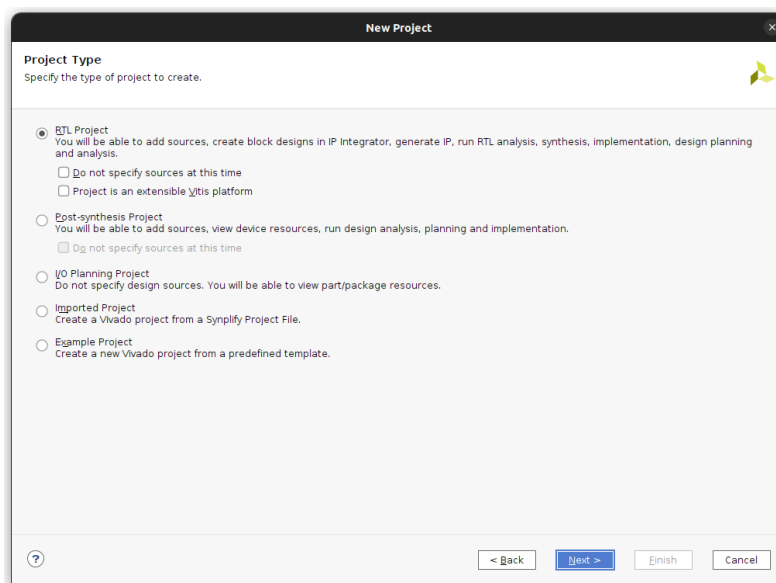

Figure 2: Options to create a project
4. Create a new RTL project (figure 2)